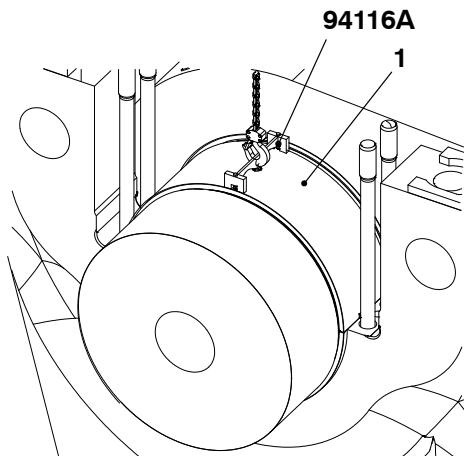

Fig. 27
- 11) Install the lifting tool (94116A) to the bearing shell (1, Fig.27).